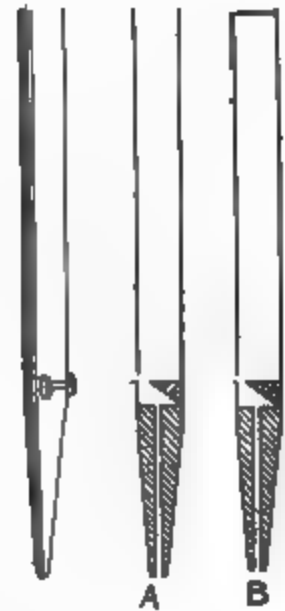

FIG. 373. — Organ pipes: (A) open, and (B) closed.
404. Wind instruments. The simplest wind instrument is the organ pipe. Sometimes the tube is open at the upper end and is called an *open pipe* [Fig. 373 (A)]; at other times the pipe is closed at the upper end and is called a *closed pipe* [Fig. 373 (B)].